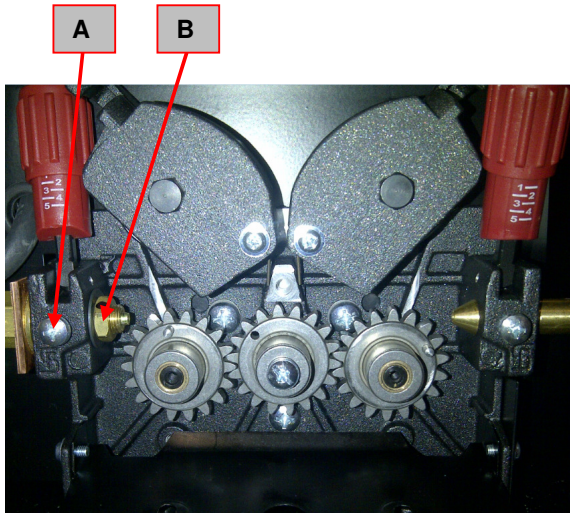

Figure 10
4. Using the phillips screwdriver remove the screw (A). See **Figure 10**.
5. Using the 14mm wrench remove the nut (B) and washer. See **Figure 10**.
6. Using the 8 mm nut driver remove the 2 nuts (C), the related 2 screws and washers.